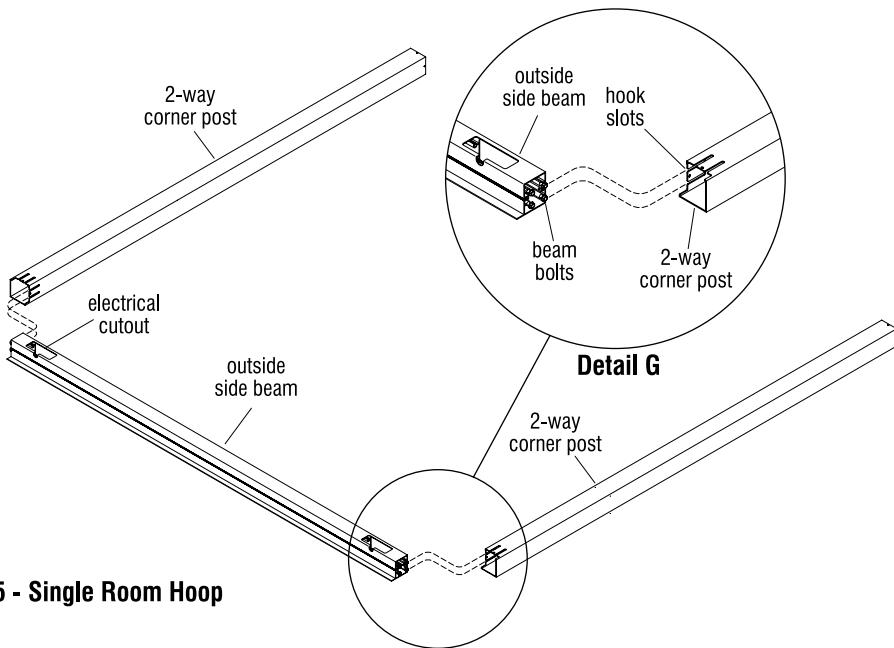

Figure 5 - Single Room Hoop
8. Single room super structure unit "hoops" will consist of two, 2-way corner posts bridged by an outside side beam. The outside side beam can be identified by the electrical cut-outs near the ends if panels are equipped with electrical. If no panels have electrical, the outside side beam will not have electrical cutouts. Reference KI quote drawing (or shop print if modified product) and locate the correct outside beam for the super structure section being assembled (Figure 5).
9. With the 2-way corner posts cut to the correct length, and the appropriate outside side beams located and identified per the previous steps, lay the corner posts and beam down, taking care to not damage or scratch them. Position the posts and outside side beams down with the outer sides face down, as illustrated to nest together. The outside side beam larger flange must face against the floor, and the electrical cut-outs (if applicable) should face up, or inward to the unit when installed (Figure 5 & Detail G).
10. Beams are shipped with four factory installed bolts inside the ends, which are intentionally left backed-out  $\frac{1}{2}$ " to help with nesting the bolts of the beam into the slots of the posts. Assemble outside side beam to each of the two corner posts as illustrated to form a "hoop", but do not tighten the bolts at this time (Figures 5, 6 & Detail G).
11. Repeat the steps above to assemble the second beam to corner posts "hoop" assembly, required for the super structure (Figures 5 & 6)